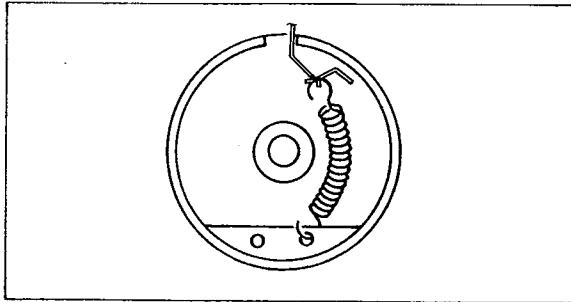

Fig. 2-7. Coil spring installation
1. Hook the spring to one hole of the drive drum as shown in Fig. 2-7.